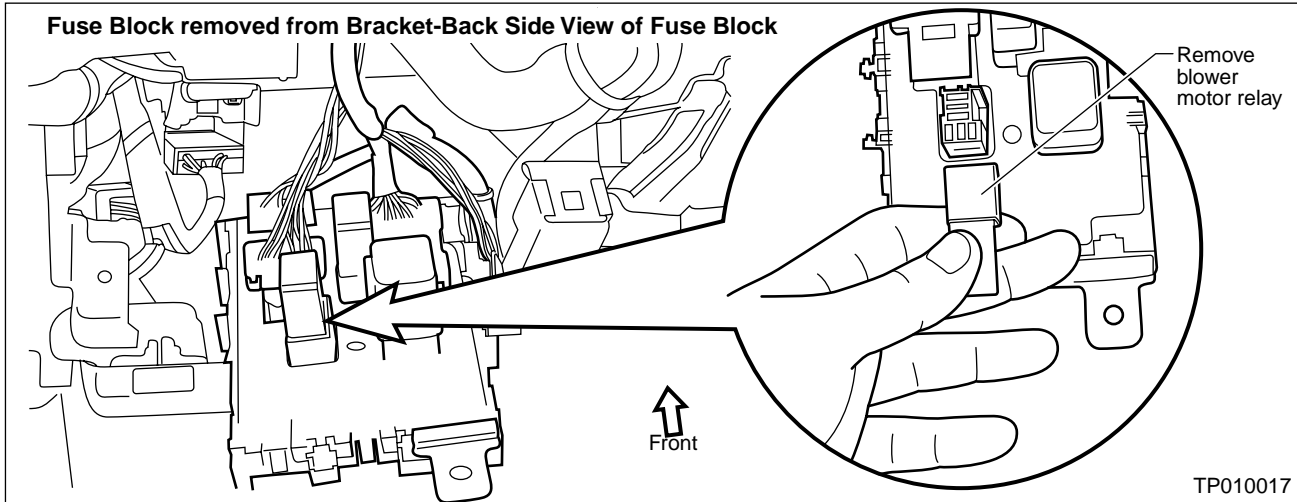

Figure 4
7. Remove the fuse block from the bracket (see Figure 4).
8. Remove the blower fan relay from the back side of the fuse block (see Figure 4).